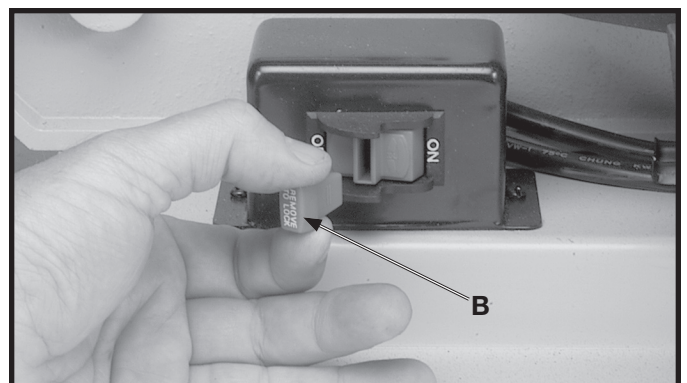

Fig. 22
IMPORTANT: When the machine is not in use, the switch should be locked in the "OFF" position to prevent unauthorized use. To lock the machine, grasp the switch toggle (B) and pull it out of the switch (Fig. 22). With the switch toggle (B) removed, the switch will not operate. However, should the switch toggle be removed while the sander is running, the machine can be turned "OFF," but cannot be restarted without re-inserting the switch toggle (B).